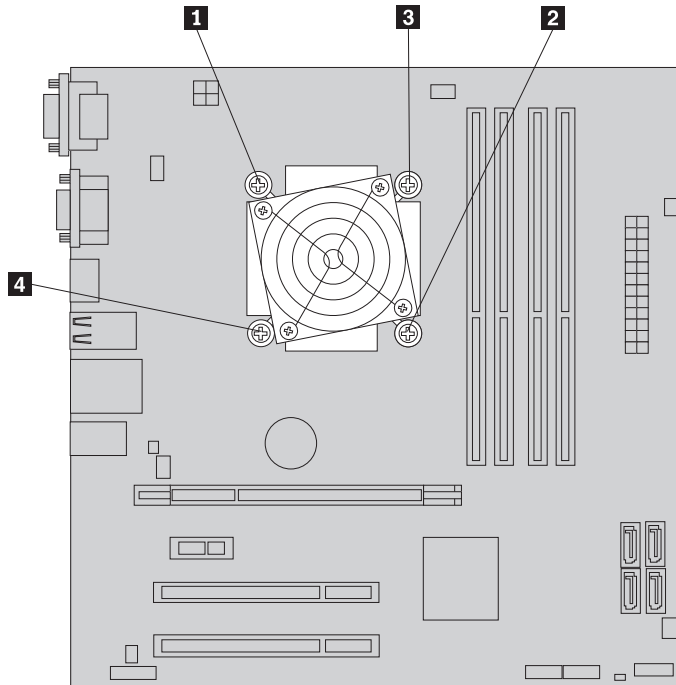

Figure 25. Removing the heat sink and fan assembly
9. Follow this sequence to install the four screws to secure the heat sink and fan assembly, as shown in Figure 25.